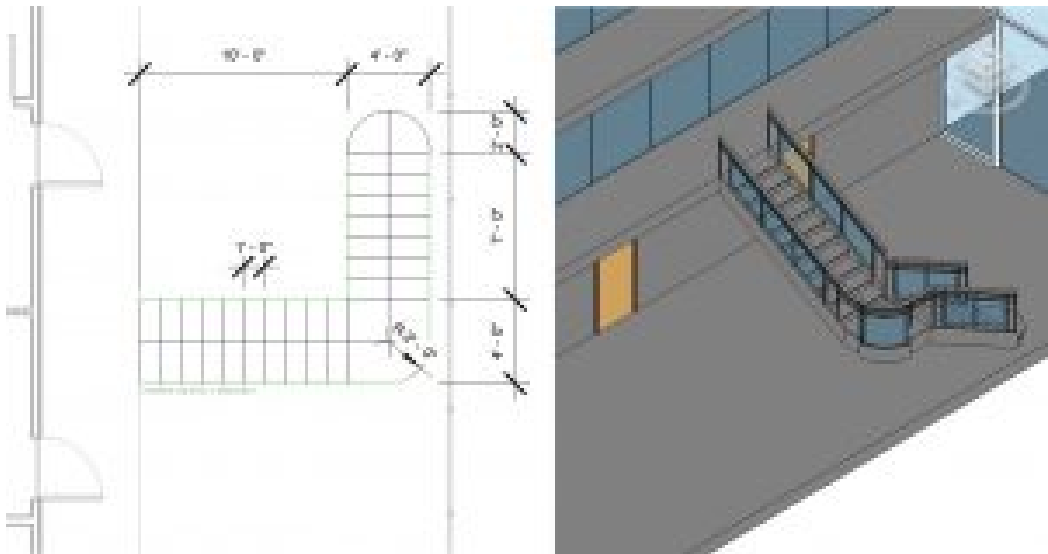

Figure 4.5 Stair sketch in plan view and finished stair in 3D view
11. Following Figure 4.5, use the Line tool  to draw green boundary lines in the Level 1 floorplan
13. Following Figure 4.5, use the Line tool  and the Start-End-Radius tool  to draw risers 1 foot apart.